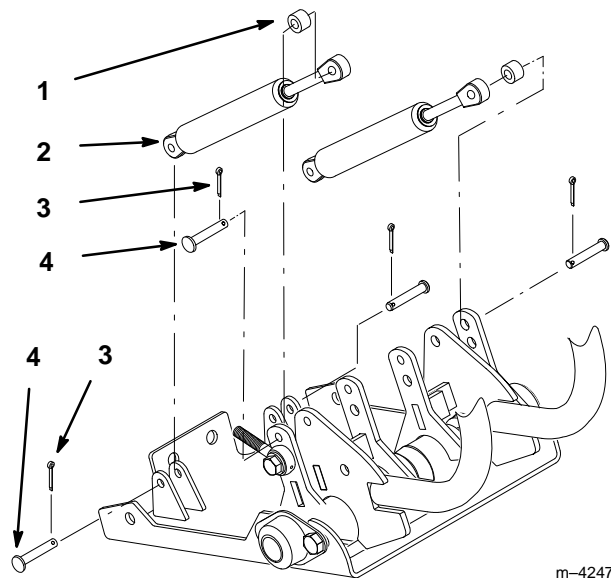

Figure 6
2. Tilt seat forward. Dampers are located under seat (Fig. 6).
3. Remove cotter pins, clevis pins, spacer and damper (Fig. 6).
4. Install new damper and install with existing cotter pins, clevis pins and spacer (Fig. 6).